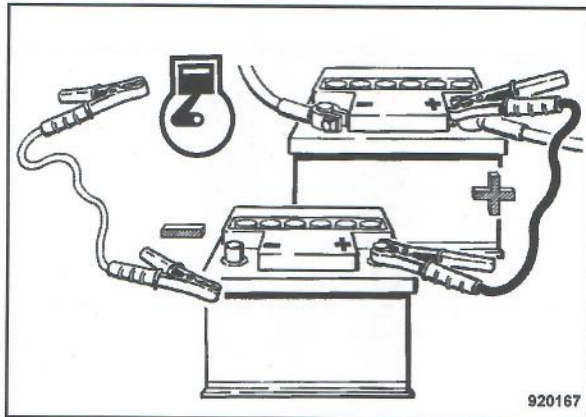

Fig. 32
- Then connect the ground cable first to the minus pole of the current supplying battery and then to engine or chassis ground, as far away from the battery as possible (Fig. 32).